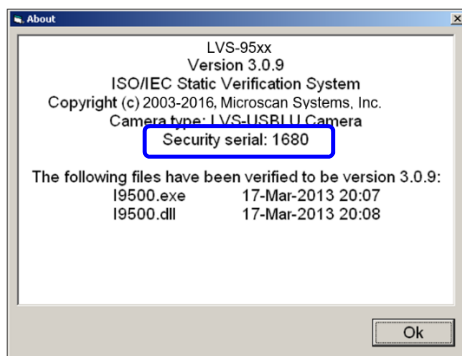

Figure 31: Security Serial Number
6. Locate the Security Serial number (Figure 31) and provide this number to an Omron Microscan distributor or Omron Microscan Headquarters via e-mail or phone.